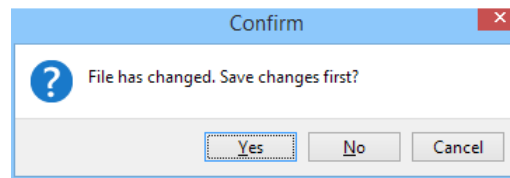

Figure 87: Confirm exiting without saving
- **Exit**: exits VRV\_Xpress, possibly after a project save confirmation, shown in Figure 87: